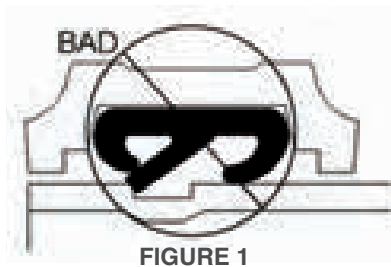

FIGURE 1
Step 3. Push the gasket/coupling onto one end of the pipe until the positioning-plate of the gasket is in contact with the end of the pipe. The pipe end should not cross through the positioning-plate of the gasket. (SEE FIGURE 1).